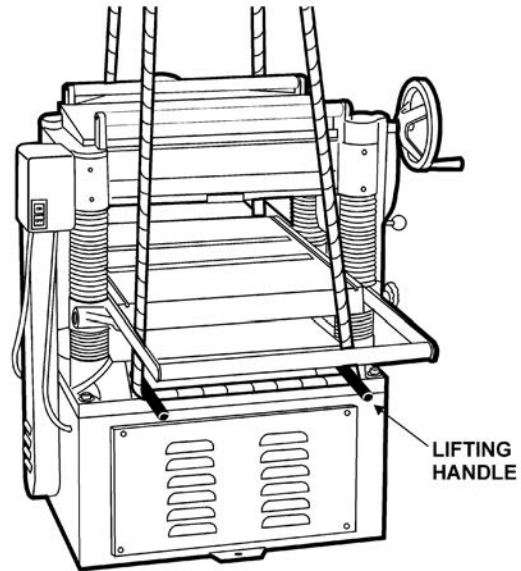

Figure 3
1. There are four lifting handles (Figure 3) on the machine. Pull the handles out for use, push in when not in use.
2. If a sling or forklift is used to lift the machine, be sure to lift by the handles only (see Figure 3). Make sure machine is kept in level position while lifting.